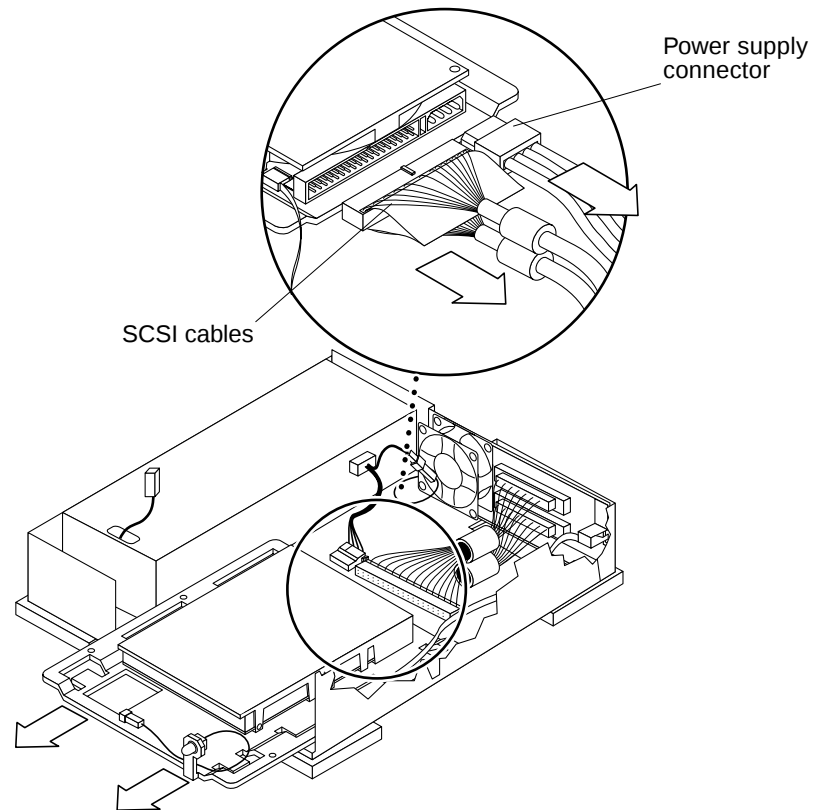

Figure 2-7 Sliding the Disk Drive Assembly Out of the Chassis and Disconnecting the Cabling
4. **Slide the disk drive assembly, consisting of the disk drive and the mounting plate, partially out of the chassis (only about 1 to 2 inches).** Do not completely remove the drive assembly. You just want to create a little room to disconnect the cables before removing the assembly completely. See Figure 2-7 on the next page.
See Figure 2-7.